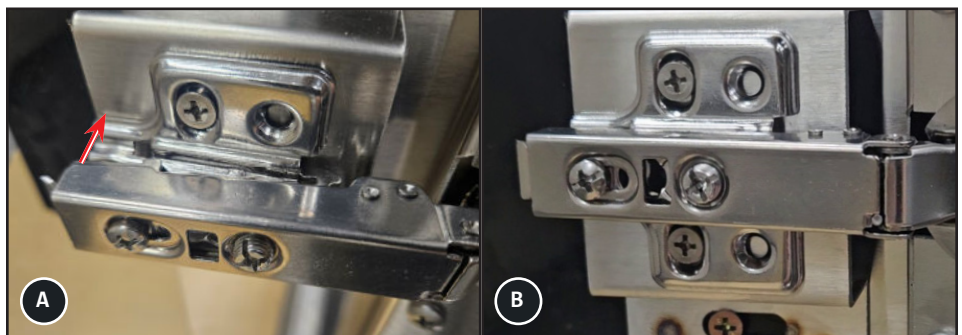

Fig. 2. Push the door hinge towards the hinge base (A) to complete reinstallation (B).
2. Push the door hinge rear towards the hinge base to snap the door hinge into place. See fig. 2.